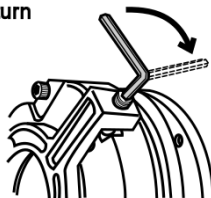

FIG. A5
1. Release the brake (Fig A5) turning clockwise the screw in the lever of brake's ring.
If the equipment requires a band saw adjustment, you will need to release the pulley. Use a 5/32" allen wrench (included) and turn the screw (see Fig A5) clockwise a whole turn. Complete service and screw back to previous position to lock the pulley again.